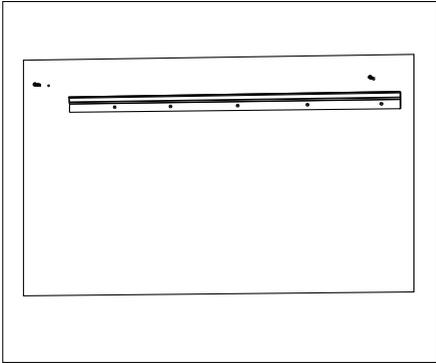

fig.10
5. Remove the fireplace and drill 2 holes in the wall and install 2 dry wall anchors.(fig.10)